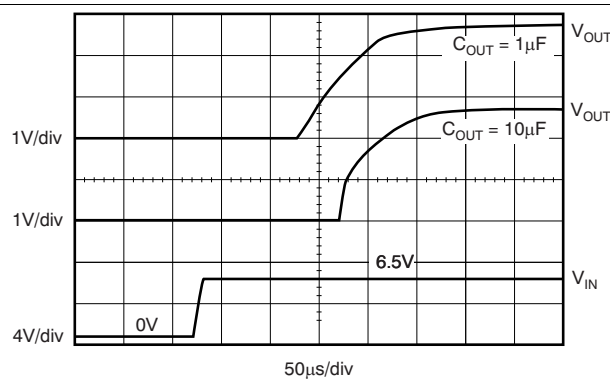

Figure 29. Turn-On Response
Note that for fastest startup, apply V_{IN} first, then the enable pin (EN) driven high. If EN is tied to IN, startup is somewhat slower. Refer to Figure 29 in the Typical Characteristics section. The quick-start switch is closed for approximately 135 μ s. To ensure that C_{NR} is fully charged during the quick-start time, use a 0.01- μ F or smaller capacitor.